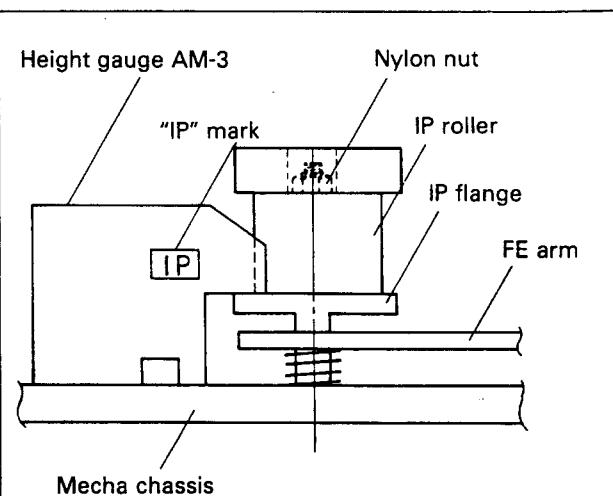

Fig. 2-5-1
- (1) Place the height gauge AM-3 Jig (J-13) on the chassis as shown in Figure 2-5-1, and adjust lower plane height of the IP flange by turning the nylon nut.